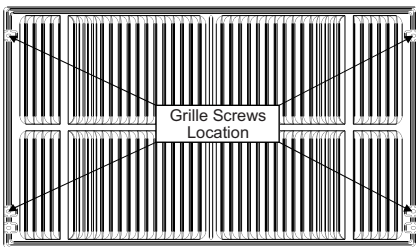

Fig. 2
4. If the unit has not been pre-drilled (some models), carefully drill 4 - 1/8" holes through the grille and into the side flange of the unit approximately 1 1/2" to 2" from the top and bottom as in Fig. 2, 3 .